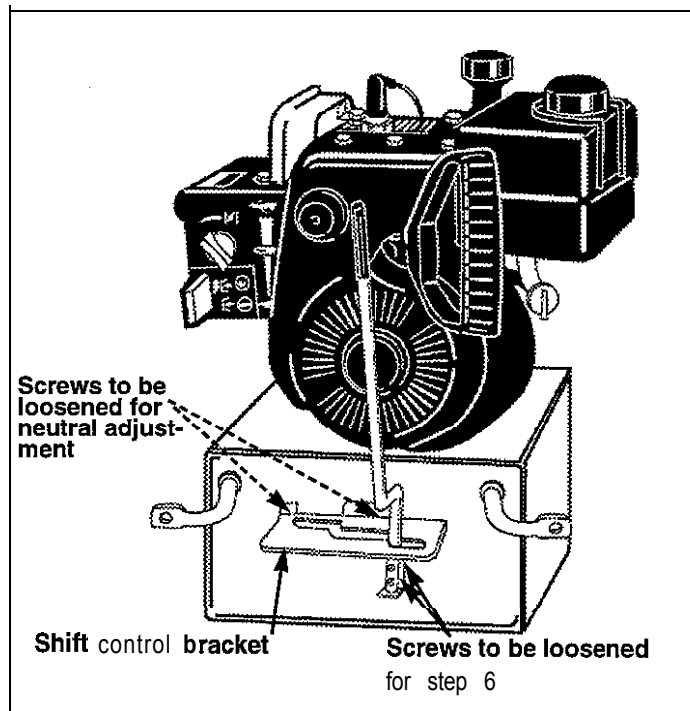

Figure 9. Shift Control Adjustment
3. Loosen screws in shift control bracket (figure 9) at rear of snowthrower.
6. Check shift lever movement from reverse to 3rd and make sure lever does not contact handles. To adjust, loosen two screws indicated in figure 9, move lever slightly, then tighten the screws and check again.